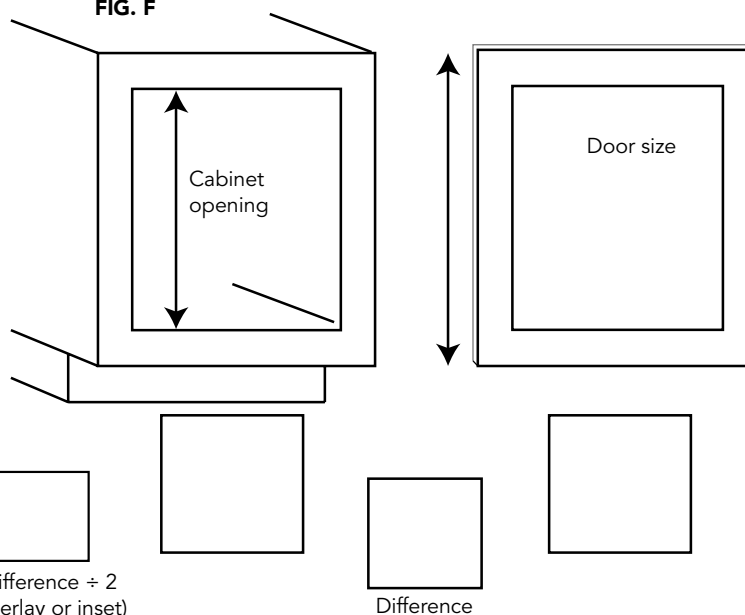

FIG. G1
Mark screw locations to the center of the thick portion of the door, pre-drill pilot holes, and attach door with (4) 6 x 1/2" flat head screws (See Fig. G1).